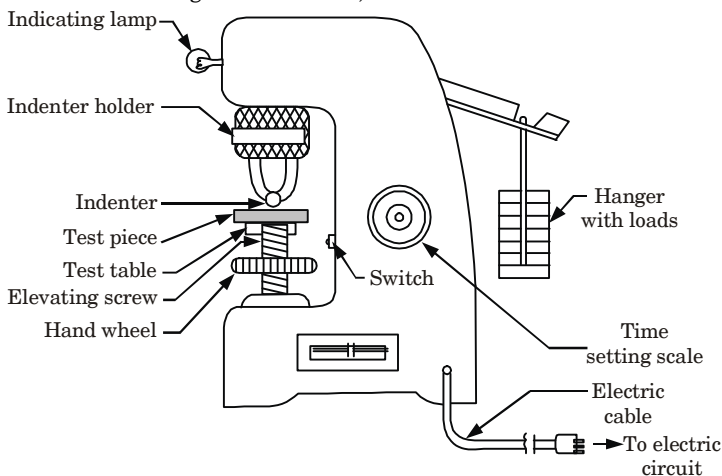

Fig. 4.
3. A Brinell hardness tester is shown in (Fig. 4).
8. The Brinell hardness is determined from the eq. (1) after substituting the values of P , D and d .